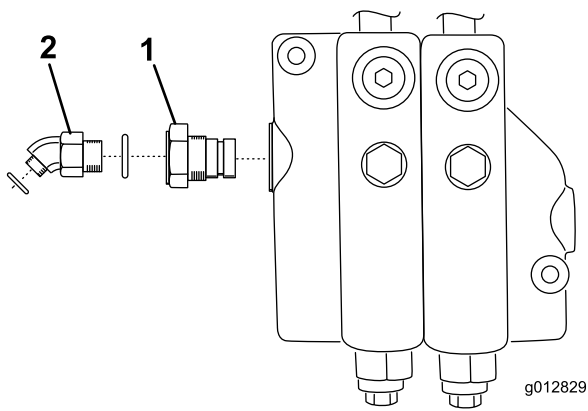

Figure 23
38. Thread the power beyond sleeve fitting into the opening in the valve and position as shown in Figure 23.
39. Thread a 45 degree fitting into the sleeve fitting on the valve (Figure 23).